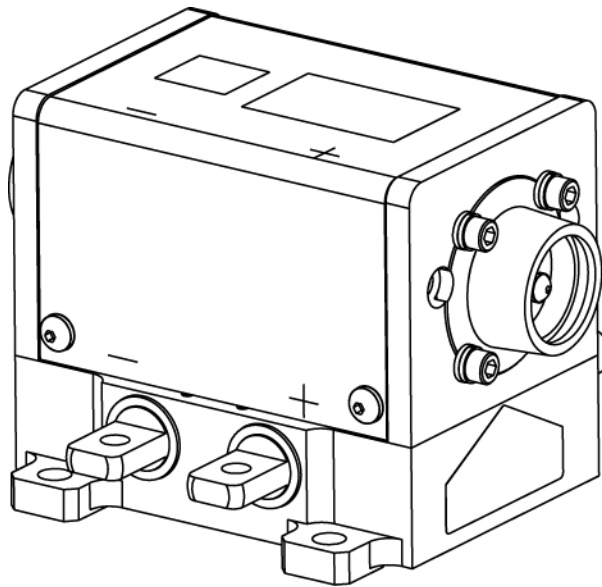

Figure 3-1 RBAT with Ring Tongue Terminals
The RBAT module connects to diode drive current via a ring tongue terminal (8-32 UNC-2B, see Figure 3-1). Positive and negative terminals are etched into the cover. NG CEO will sell cables for connecting this plug to customer's preferred electronic connector. Customer should specify connector type and cable length.
2. Place a shorting connector across the module electrical contacts shown in Figure 3-1.